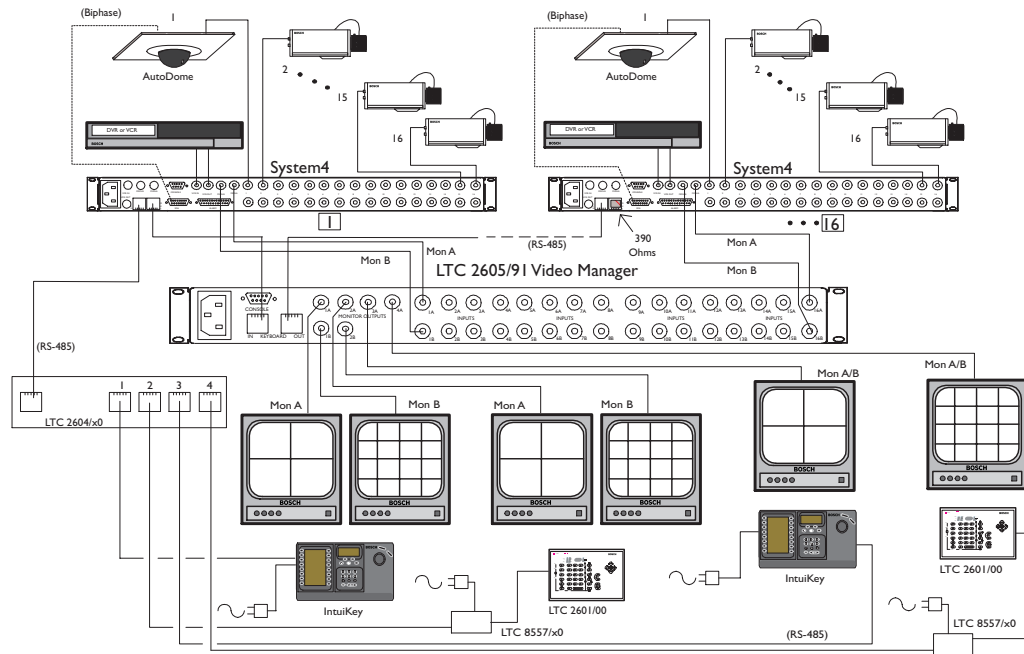

Figure 7 – Video Manager with System4 Multiplexers having 4 Control Locations Using Both IntuiKey Keyboards and LTC 2601/00 Keyboards
- Four Keyboard Configuration using LTC 2604 Keyboard Expander (Reference Figures 7 and 8 in Section 4: Installation Diagram): The video from Monitors A and B of the device controlled by the first keyboard is displayed on outputs 1A and 1B of the Video Manager, respectively.
*Functional Notes for Figures 7 & 8:*